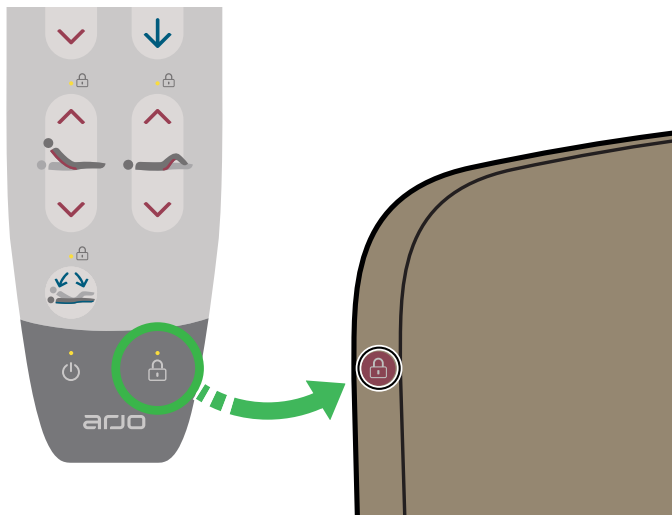
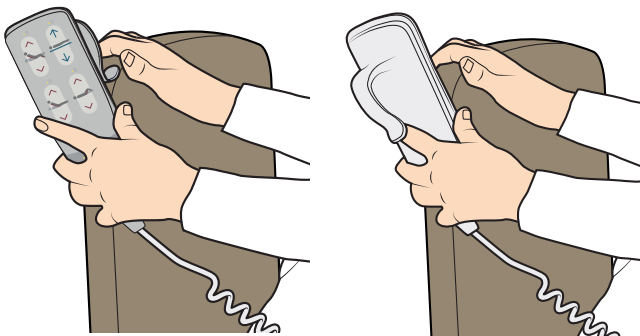

Figure 43
Figure 44
1. Hold the hand control magnetic sensor against the magnet for 1 second. See Figure 43. Both the front and the back of the hand control are possible to use. See Figure 44. All indicators flash.